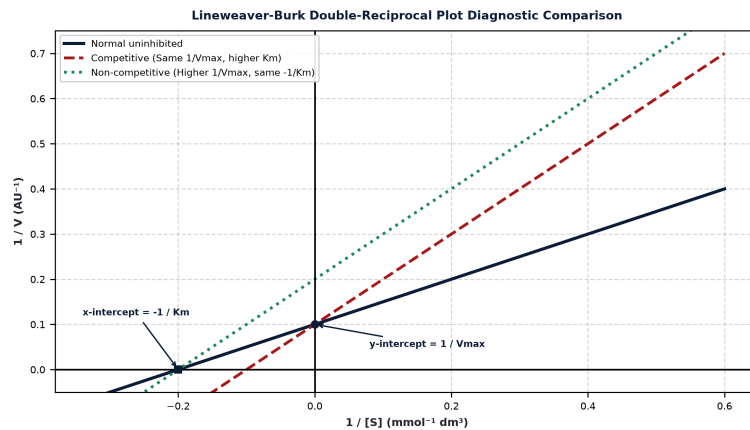

Fig. 3.12: Lineweaver-Burk double-reciprocal plot comparing uninhibited and inhibited enzymes.
The Lineweaver-Burk plot linearises Michaelis-Menten data by plotting the reciprocal of velocity ($1/v$) against the reciprocal of substrate concentration ($1/[S]$). Fig. 3.12 compares normal, competitive, and non-competitive enzyme kinetics.
- (b) With reference to Fig. 3.12, explain how a Lineweaver-Burk plot distinguishes between a competitive and a non-competitive inhibitor. [2]